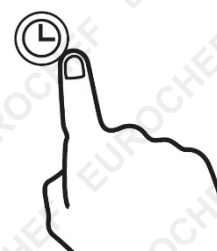

fig.5
2. Press the timer button (fig. 5), and then use the up and down buttons to set the countdown time.